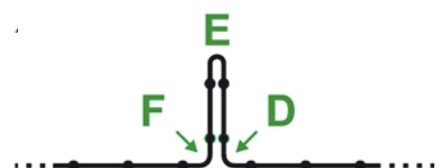

Fig 11
Step 94: Repeat the last steps with the folding lines D, E, and F to form a rail in the left, lower wing (see Fig 11).